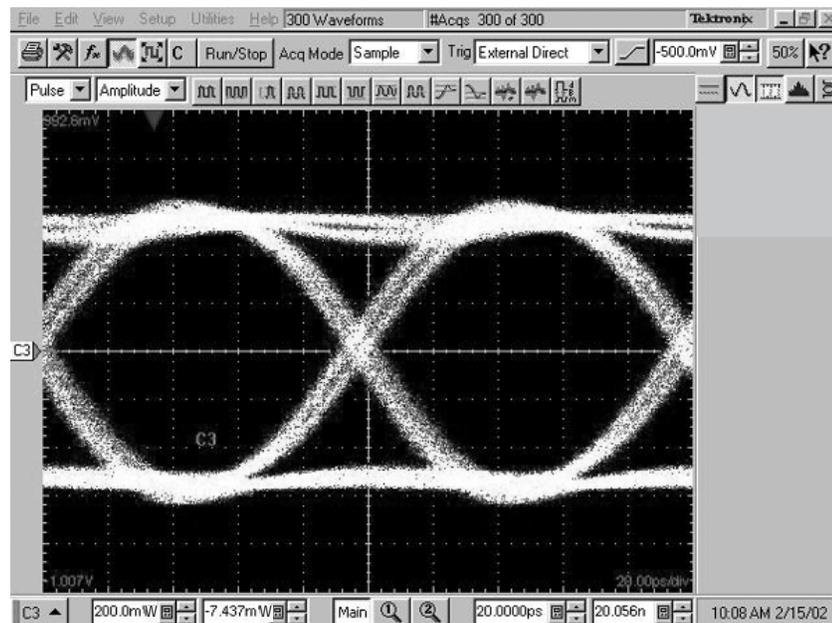

Figure 3: Oscilloscope display of an eye pattern
10. On the oscilloscope, press Autoset, and then adjust the horizontal scale to display an optical eye pattern (see Figure 3).
The oscilloscope displays an optical eye pattern as shown in Figure 3, indicating that the transmitter is functioning correctly. The internal laser source, coupled to the laser input port, is being modulated by the electrical data stream from the BERT. The modulated optical output signal is displayed on the oscilloscope.